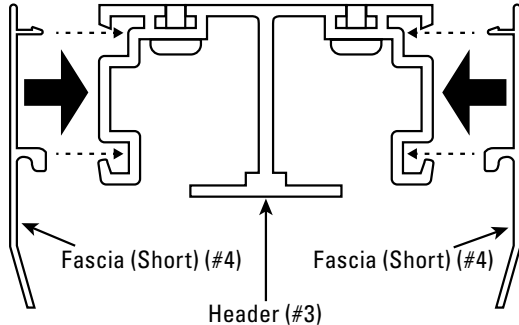

Figure 10
B. Snap front Fascia (Short) on to Header. See **Figure 10**.